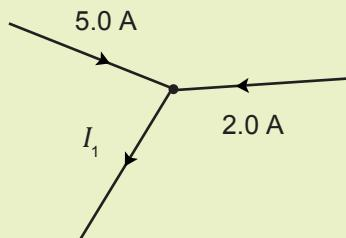

Figure 4.47
- Calculate the unknown currents for the nodes in Figures 4.47 and 4.48.